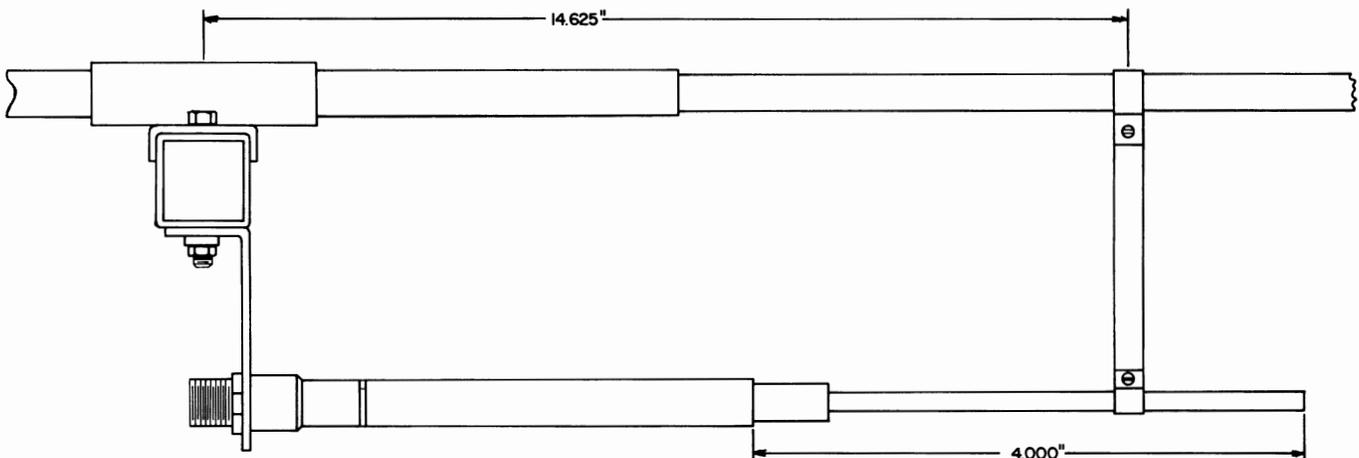

Fig. 5
Locate the 1/4" rod clamp and the 1/2" tube clamp. Referring to Figure 5, place the 1/4" rod clamp on the 1/4" rod on the gamma arm assembly and the 1/2" tube clamp on the 1/2" driven element (DE) in the approximate location shown in Figure 5.